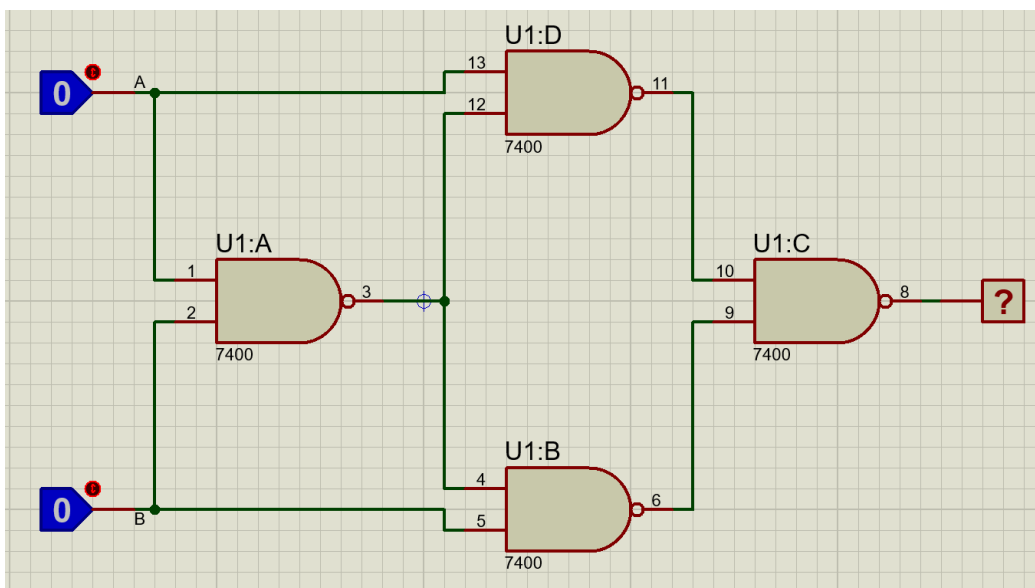

Figure 2: XOR using NAND gates on Proteus Simulator.
- Connect inputs (A and B) to the logic-toggle, as shown in Figure 2.
- Connect the output (Q) to the logic-prob, as shown in Figure 2.
- Verify the XOR-gate output(Q) by toggling the inputs (A and B).